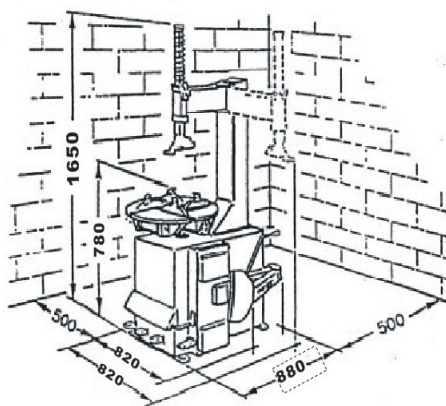

Fig. 2
- In order to obtain a safe and ergonomically sound positioning of the machine, it is recommended to maintain a distance of at least 50 cm from surrounding walls (Fig. 2 and 3). Also, in this way all parts of the machine can move unobstructed.